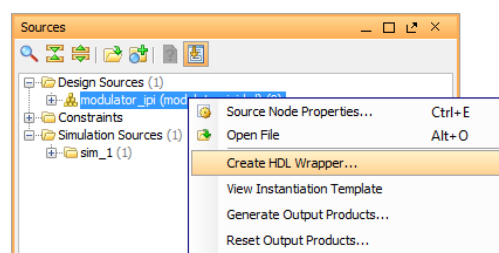

Figure 35. Create HDL Wrapper option
- 3-3-5.** In the **Sources** window, select **modulator_ipi**, right-click on it and choose **Create HDL Wrapper...** option, see Figure 35.